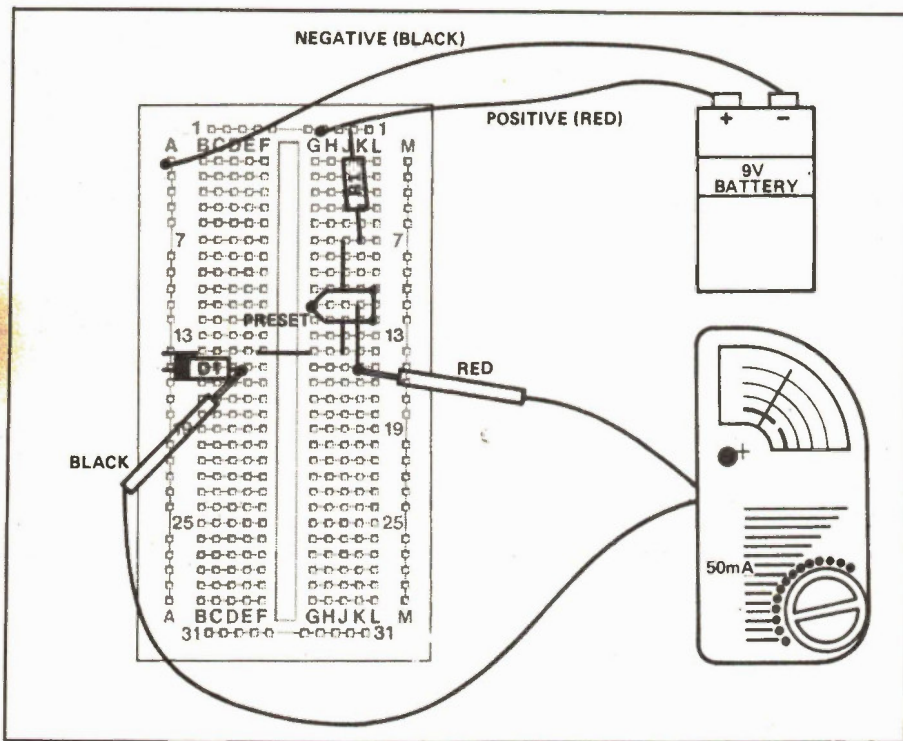

Fig. 8 The same circuit, set up to measure the current across the diode.
- Now set up the breadboard layout of Figure 8 measure the current through the diode; the breadboard layout is designed so that all you have to do is take out a short length of single-strand connecting wire and change the position of the meter and its range. Record the value of the current at the voltage of step 2.